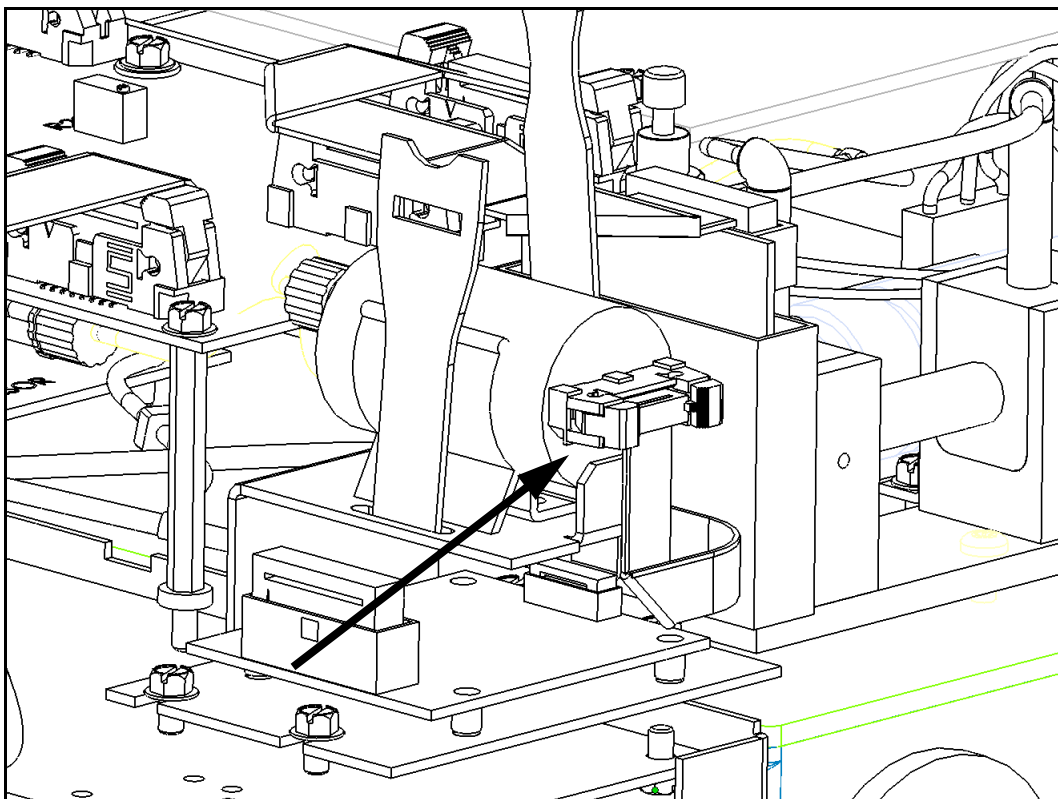

Figure 3-10 Ribbon Cable Connection
4. Disconnect the ribbon cable by carefully pushing outward on the two locking “ears” of the connector (Figure 3-10).